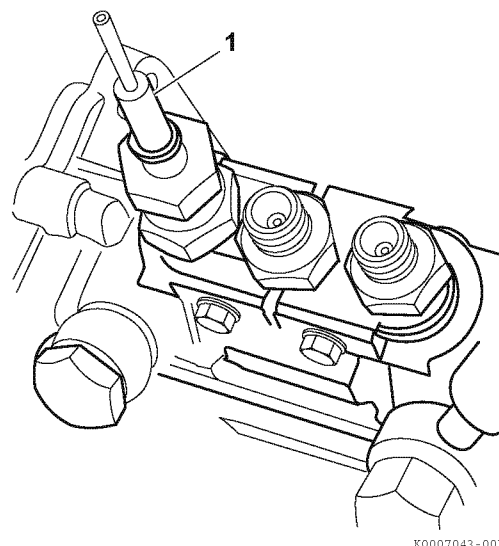

Figure 7-23
14. Install the “spill-timing” tool (**Figure 7-23, (1)**) onto the delivery valve for the cylinder being checked. *See Measuring Instruments on page 7-7.*